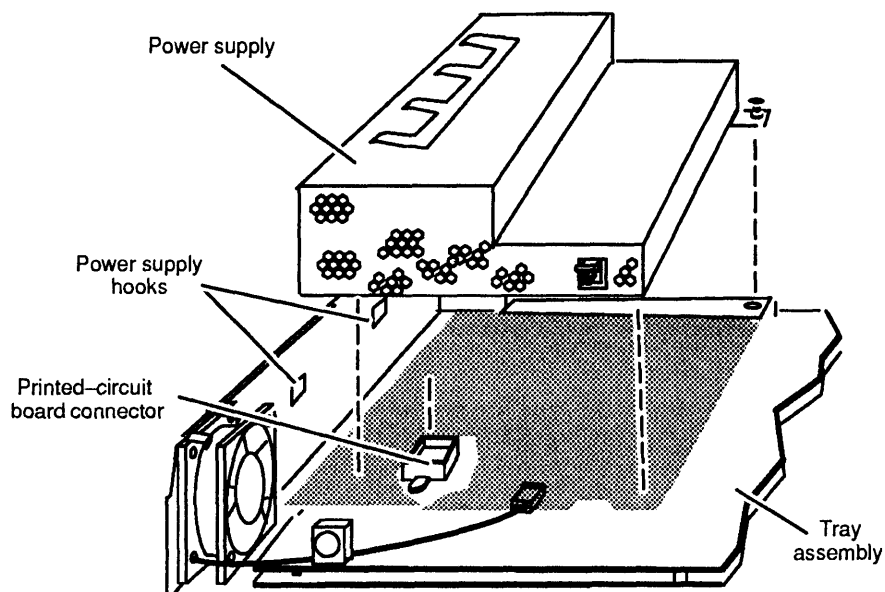

Figure 4-29 Removing the Power Supply
4. Lift the power supply up and out of the tray assembly, as shown in Figure 4-29.